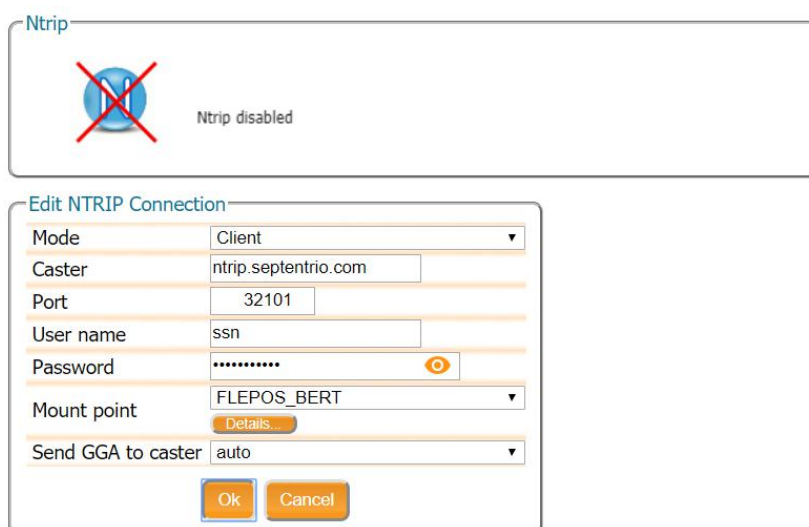

Figure 4-5: NTRIP Settings
3. Enter the NTRIP caster details as shown in Figure 4-5 and click **Ok**. The mount point list will only be populated when the caster details have been entered correctly.